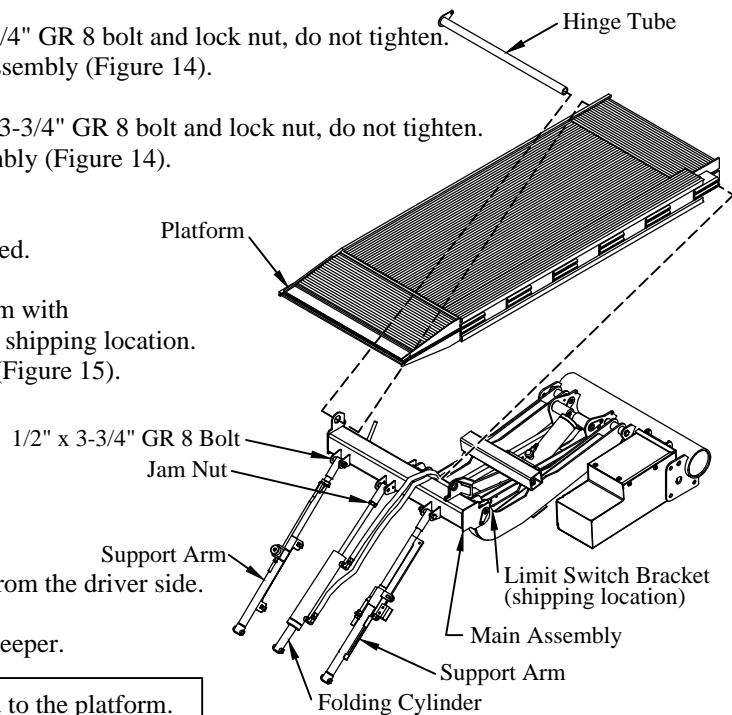

Figure 14: Platform parts location.
- 1. Install** the support arms on the main assembly, using a 1/2"x3-3/4" GR 8 bolt and lock nut, do not tighten. The threaded end of the support arm goes toward the main assembly (Figure 14).
- 2. Install** the folding cylinder on the main assembly, using a 1/2"x3-3/4" GR 8 bolt and lock nut, do not tighten. The threaded end of the cylinder goes toward the main assembly (Figure 14).